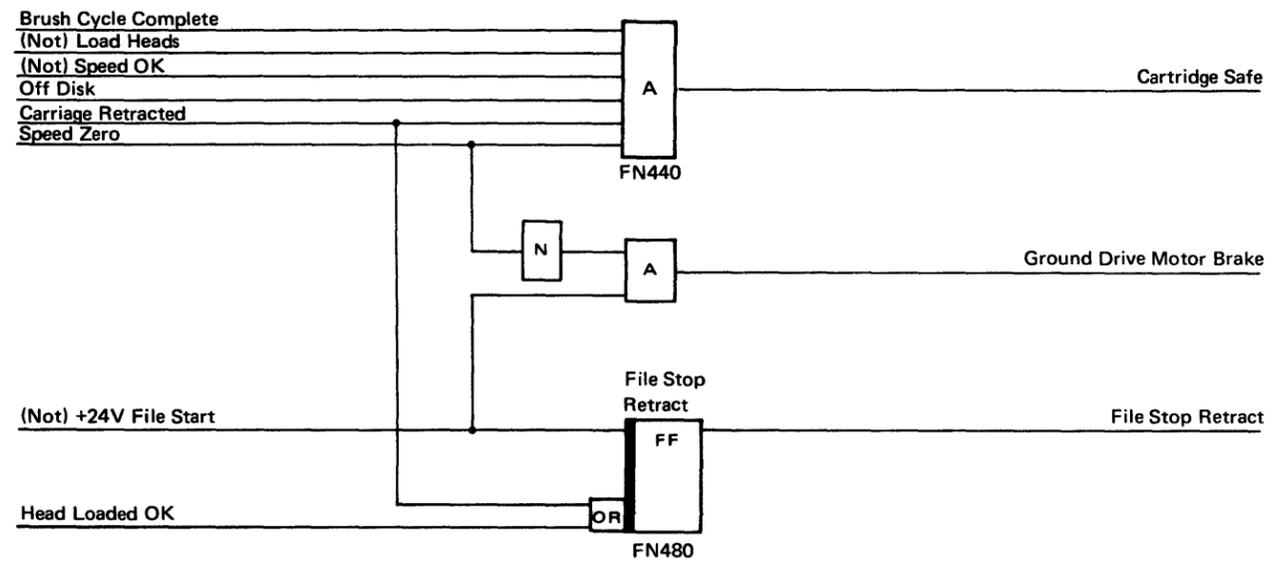

Figure 1-51. Machine Stop Logic [07512]
- The machine stop logic and timing are given in Figures 1-51 and 1-52.